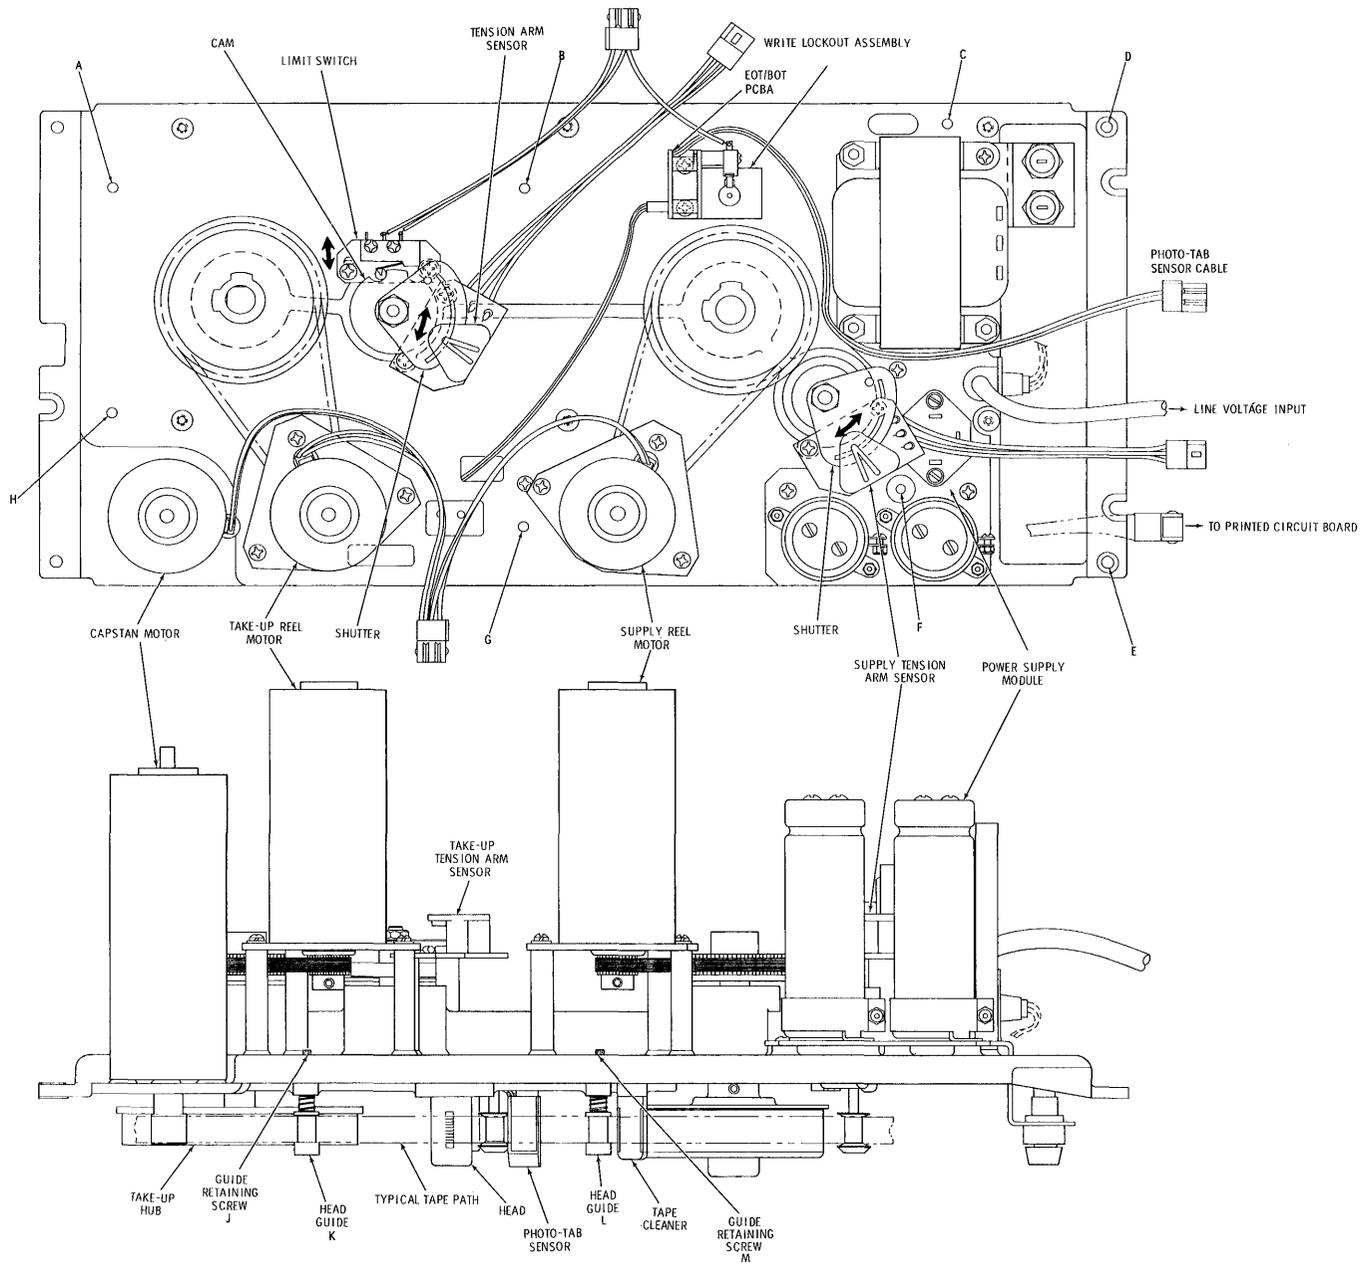

Figure 6-2. Tape Deck Diagram (Rear View)
When the tension arm is resting against its backstop, the position of the limit switch roller with respect to the cam should be as shown in Figure 6-2. At this time the switch contacts should be open. If the relative positions of the roller and cam are not as illustrated, the following adjustment is performed.
- (1) Loosen the cam retaining set-screw.
- (2) Rotate the cam on its shaft until the limit switch roller is in the position illustrated in Figure 6-2.
- (3) Firmly tighten the cam retaining set-screw.